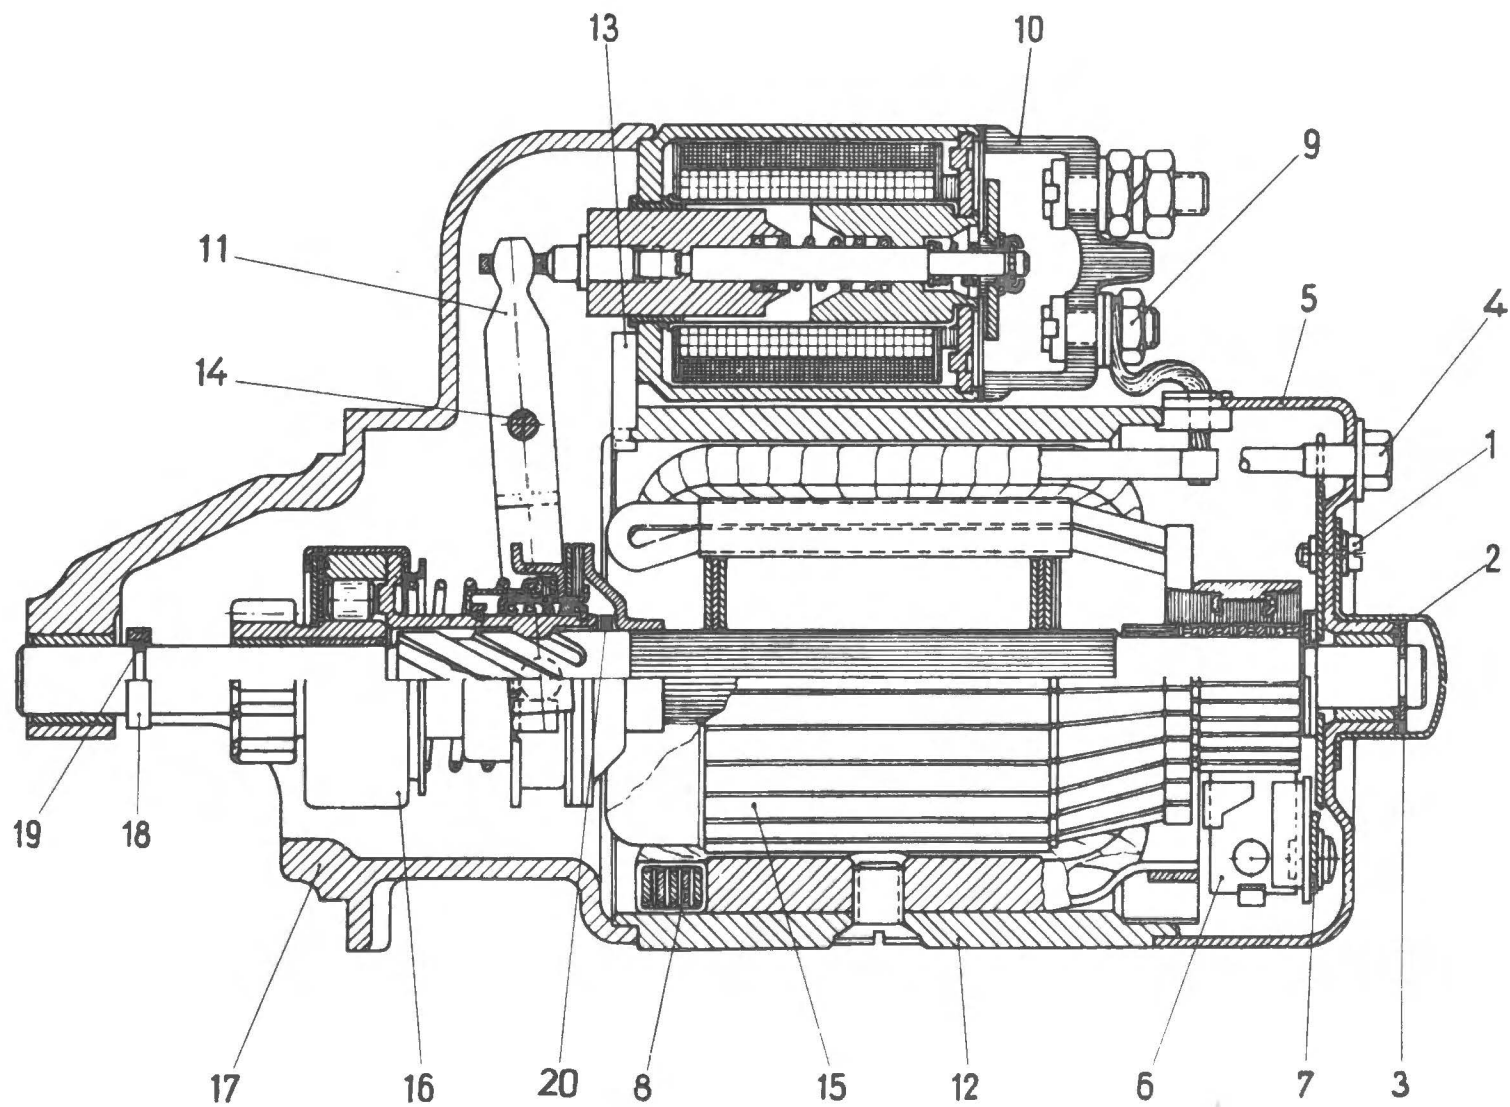

Fig. 2 - Starter motor.
#### Disassembly (Refer Fig. 2)
Re-assembly is a reversal of dis-assembly procedure, paying particular attention to ensuring a water tight seal is made at the rubber packing (13). Fig. 2.